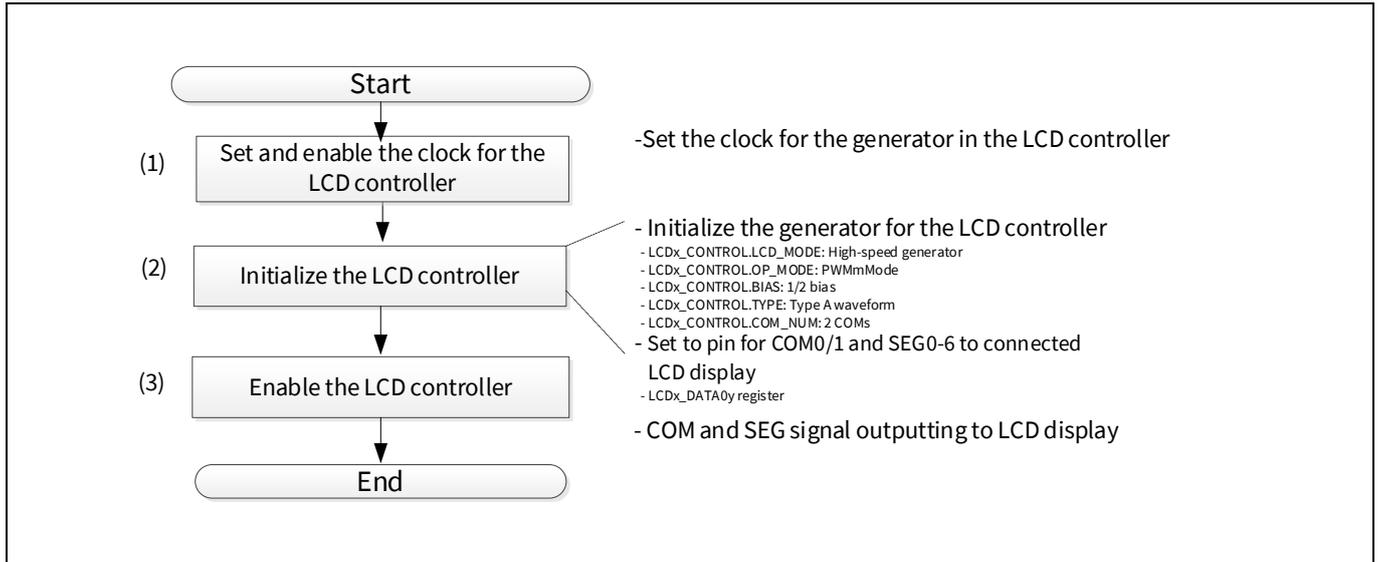

Figure 6 LCD controller use case flowchart
Figure 6 shows a flowchart of this use case.
2. Initialize the LCD controller. Set the basic drive mode as shown in **Figure 6**, and then set the pins to assign COM0/1 and SEG0-6 in the register.